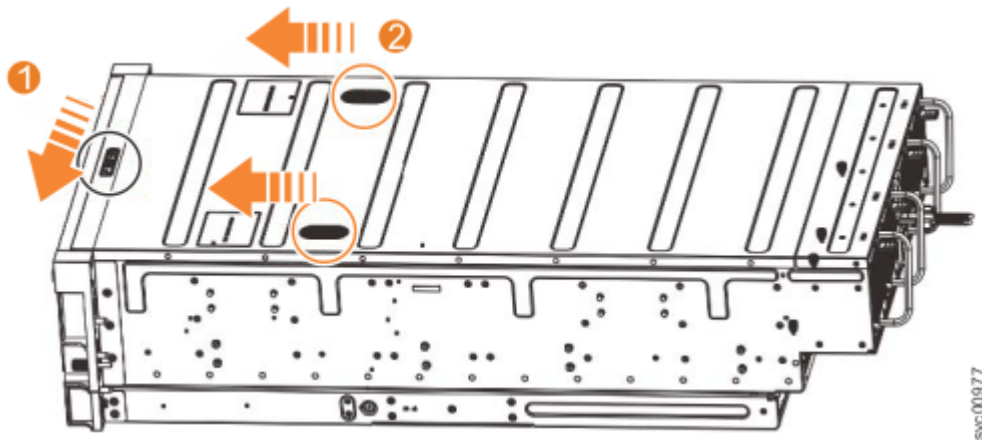

Figure 30. Releasing the 2077-92F cover
1. Slide the release latch (1) in the direction that is shown in Figure 30 on page 43.
2. Slide the cover toward the front of the expansion enclosure (2), as shown in Figure 30 on page 43.